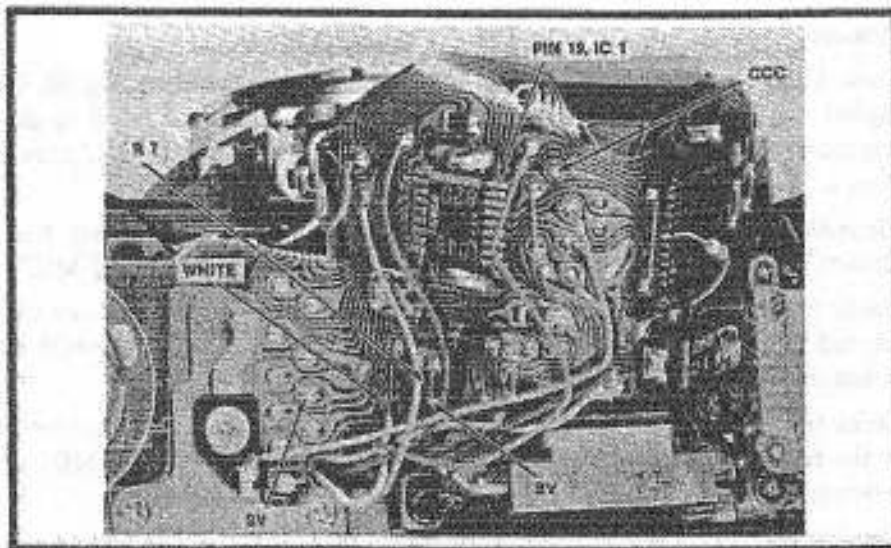

Figure 91
Check the BV signal at pin 4 of IC4 or at R7, Fig. 91. With SW1 closed, you should get a change in voltage as you change the light level striking the SPD. The BV voltage should go more positive as you decrease the light level. If there's no change, troubleshoot IC4.
Connect a 4.7K resistor between the CCC land, Fig. 91, and ground. The LED readout should change to *f*/4. If it does, IC2 is o.k.
Cause: check the maximum-aperture resistor. Disconnect the white wire, Fig. 91 from the flex and measure the resistance between the white wire and ground. As you push in the maximum-aperture correction pin, the resistance should go from around 4K to around 11K. If the maximum-aperture resistor checks o.k., measure the voltage at pin 2 of IC4. The voltage should go from around 1.8V to around 1.4V as you push in the maximum-aperture correction pin. If the voltage remains at 1.8V, replace IC4.
5. Check the AVO signal at pin 2. You should measure around 1.8V without a lens on the camera. When you push in the maximum-aperture correction pin, you should see the voltage decrease—around 1.5V with the maximum-aperture correction pin pushed completely in. No change—check the maximum-aperture resistor VR102 by measuring the resistance between the white wire, Fig. 91, and ground. The resistance should go from around 4K to around 11K as you push in the maximum-aperture correction pin. If the maximum-aperture resistor checks properly, but you don't get the voltage change at pin 2, replace IC4.